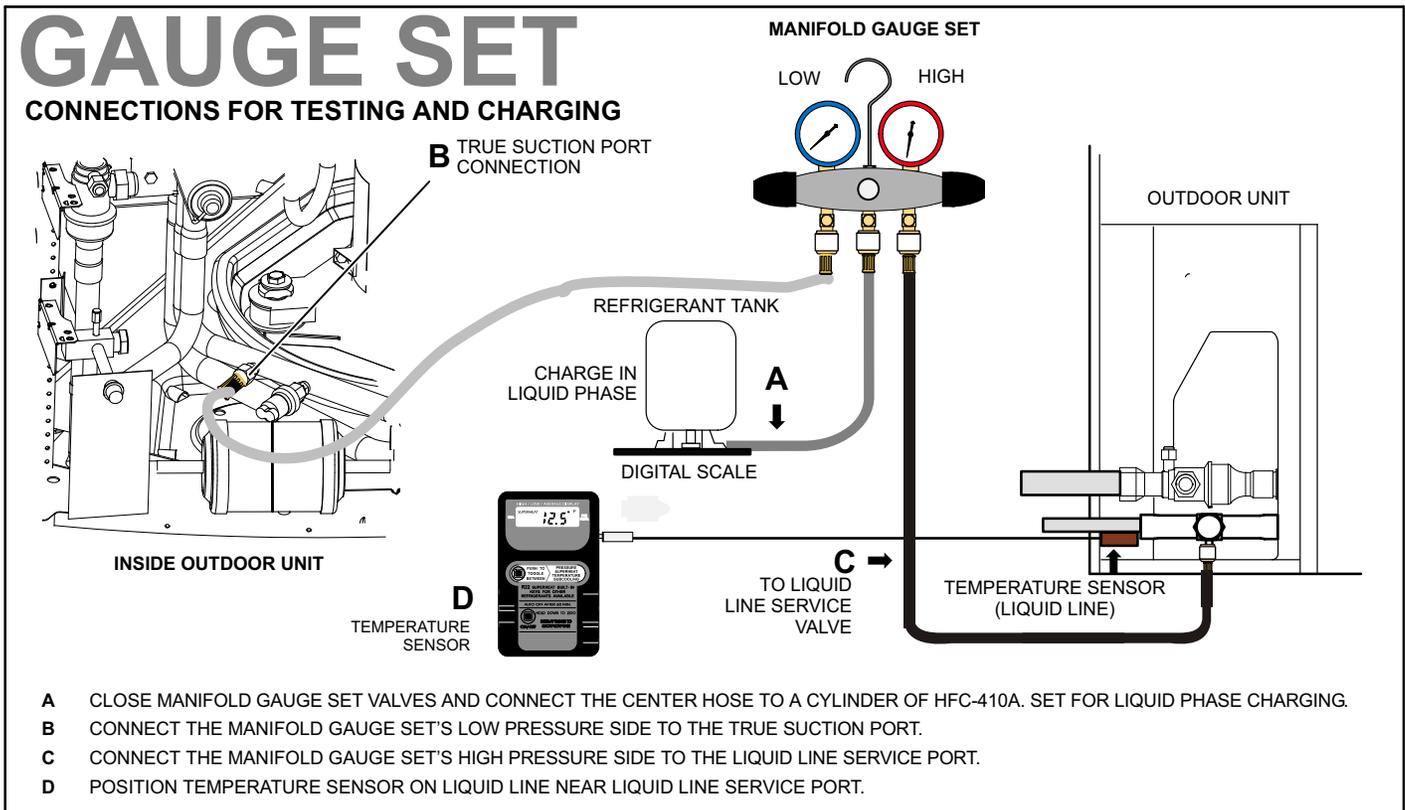

Figure 16. Gauge Set Connections
1. Connecting gauge set for testing and charging as illustrated in figure 16.